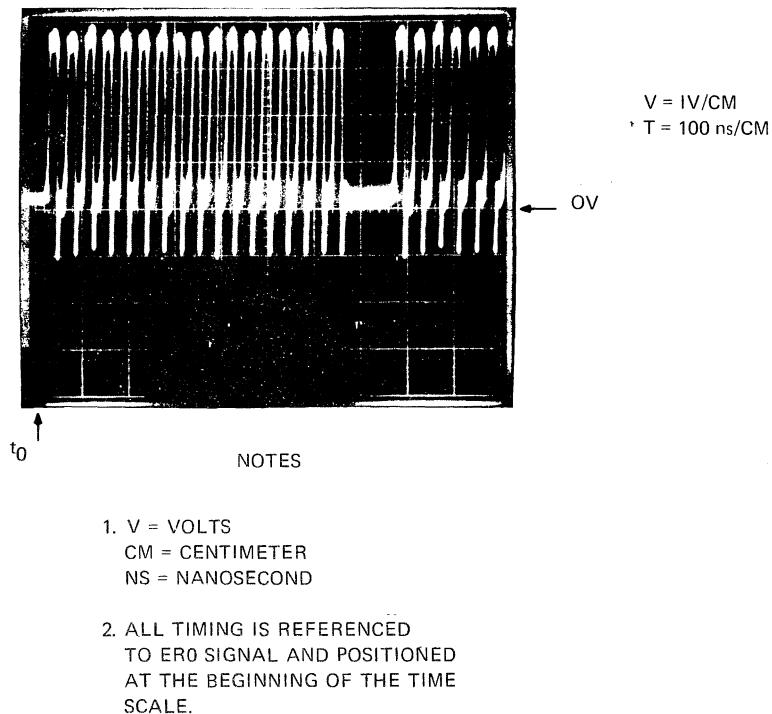

Figure 3. SRC1 Location: A89-08
The clock is provided by a delay line oscillator. The frequency of oscillation is set at the factory. Typical wave forms and timing are shown on Figure 3.
3. Internal clock not running	Check waveform A89-Pin 8 (SRC1) as per Figure 3. If no pulses appear, check that A87 Pin 6 (MB1) is at a logic ONE. If not, determine if ERO is being generated. Refer to Sheet 11.